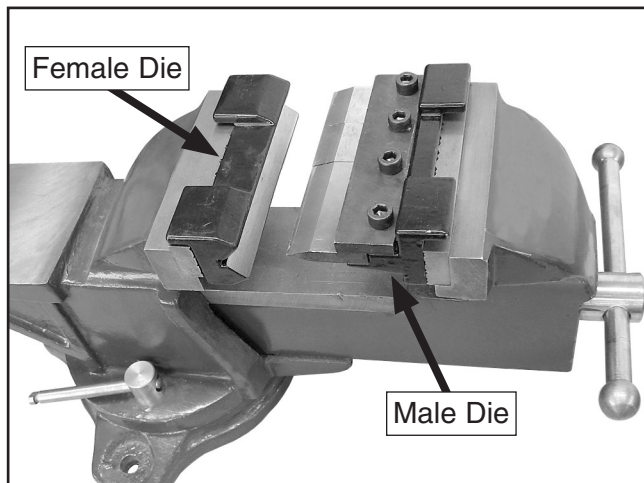

Figure 2. Example of vise brake mounted on a bench-top vise (Model H3243 shown).
3. Place the vise brake assembly on the vise as shown in **Figure 2**.